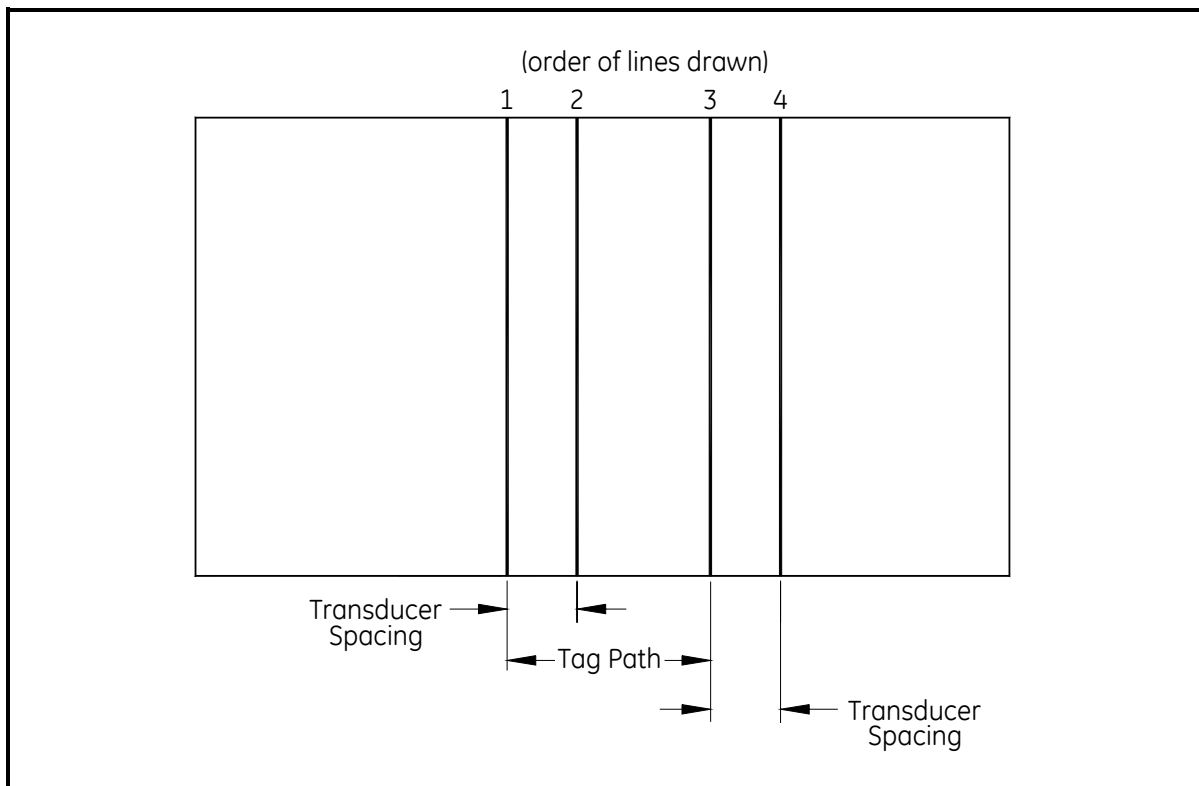
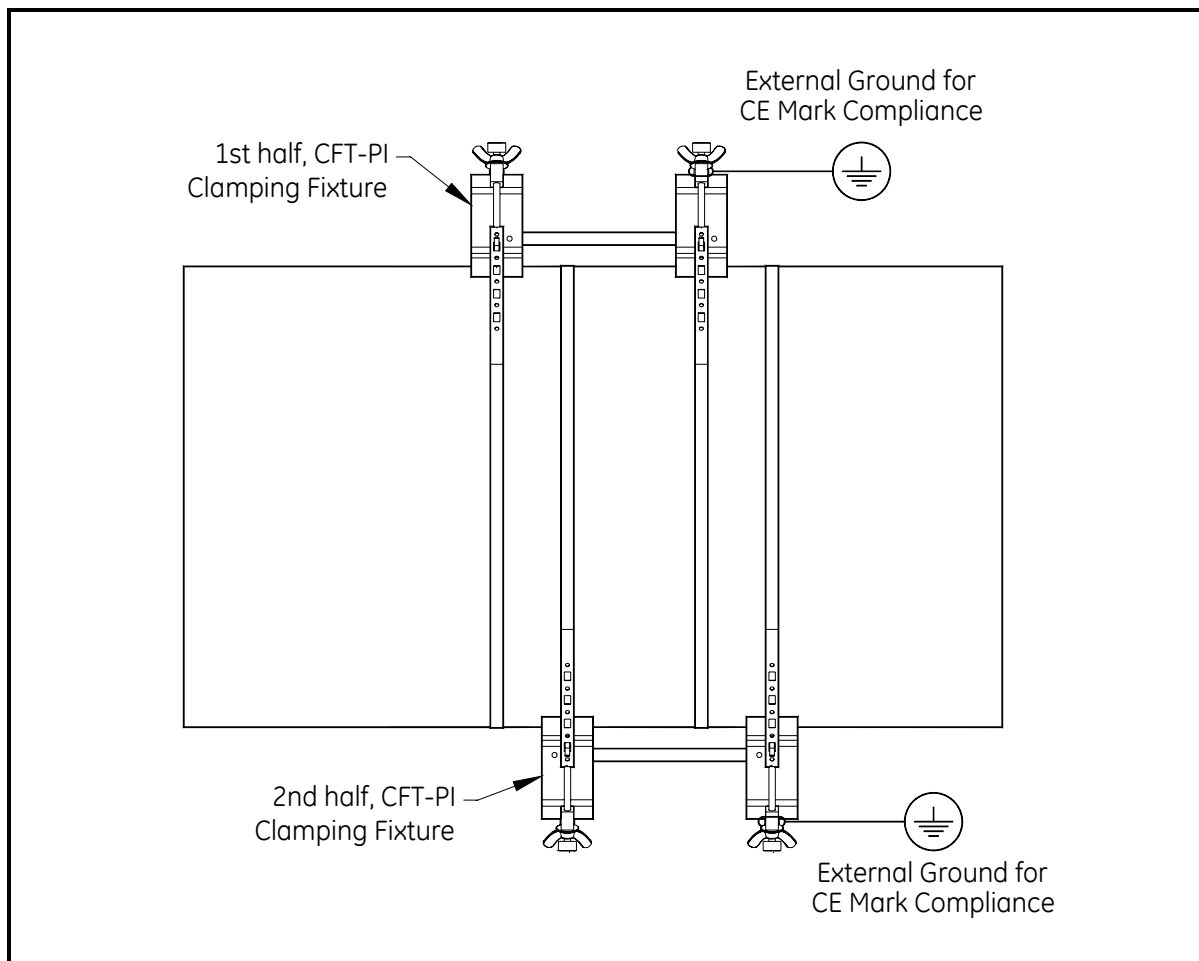

Figure 2-4: CFT-PI Clamping Fixture, Lines Drawn for Installation
Figure 2-5: CFT-PI Clamping Fixture, Order of Installation (top view of pipe)
Refer to Figure 2-4 below and Figure 2-5 on page 2-16 and mount the CFT-PI fixture on the pipe.
The pipe should now look like Figure 2-4 below.
6. Mount the other half of the fixture on the opposite side of the pipe. The clamping fixture should now look like Figure 2-5 below.
Proper grounding of the clamping fixture (using the grounding lugs provided) is required, to prevent the possibility of electric shock and to meet CE Mark compliance (see Figure 2-5 below).